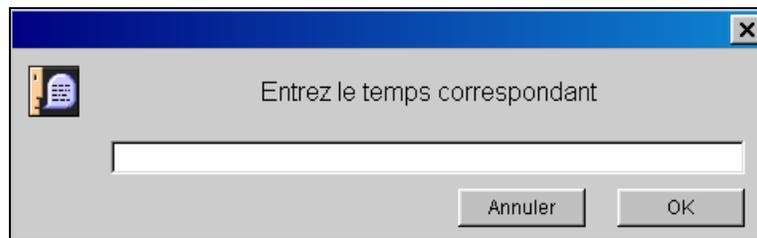

Figure 8: Entering the operation time
- Click in the **time** field, a dialogue box appears (figure 8).